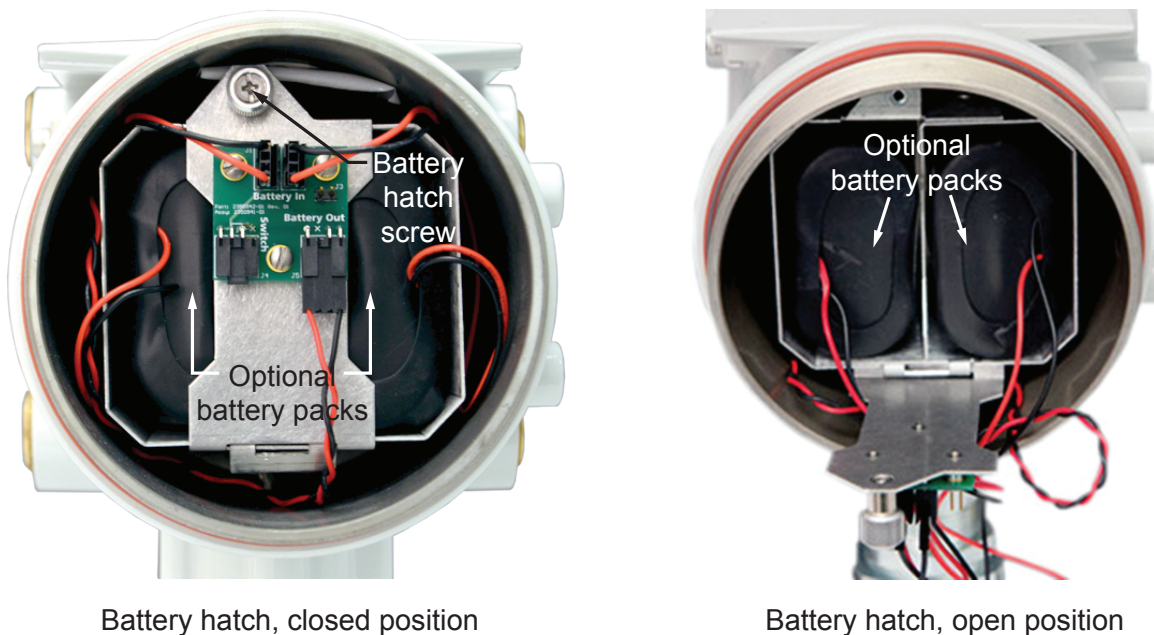

Figure 5.1—Removal of the battery pack from the enclosure
2. Loosen the battery hatch screw with a screwdriver (Figure 5.1, page 72).
4. Disconnect the battery from the J1 connector on the battery board and remove one of the spent battery packs from the enclosure (Figure 5.1). For sustained power, replacing one battery pack at a time is recommended.